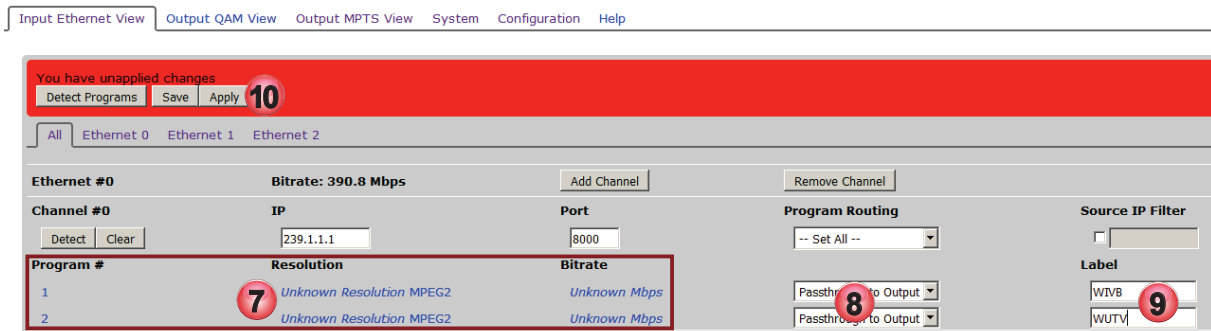

Figure 3-5: Input Programs Detected
7. Programs listed in the PMT tables of the transport stream will appear in the list, Figure 3-5, but without the Resolution or Bitrate. The bit rates of these programs are unknown at this point as they need to be passed through to the output to be measured. It is assumed you already know what the programs are and knowing the bit rate is not required at this point. All programs will initially have **Program Routing** set to **Filter** thus will not be measured.